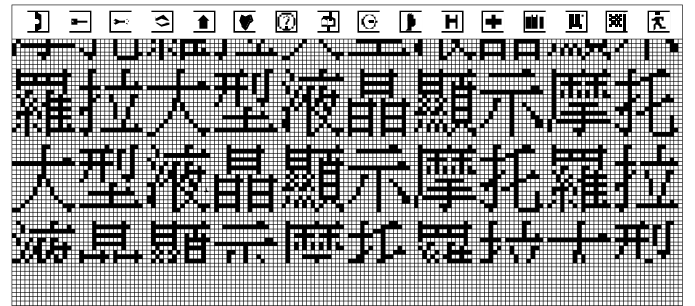

Figure 8g: Vertical scrolling with writing 3Eh to scrolling register
- 6) Enable vertical scrolling command with scrolling value of 3Eh shown in Figure 8g and